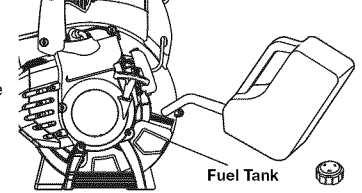

Fig. 7
This unit is supplied with one 2.03 fl.oz. (60 ml) bottle of SAE 30 SF, SG, SH oil (Fig. 7).
1. Remove the fuel cap (Fig. 7).